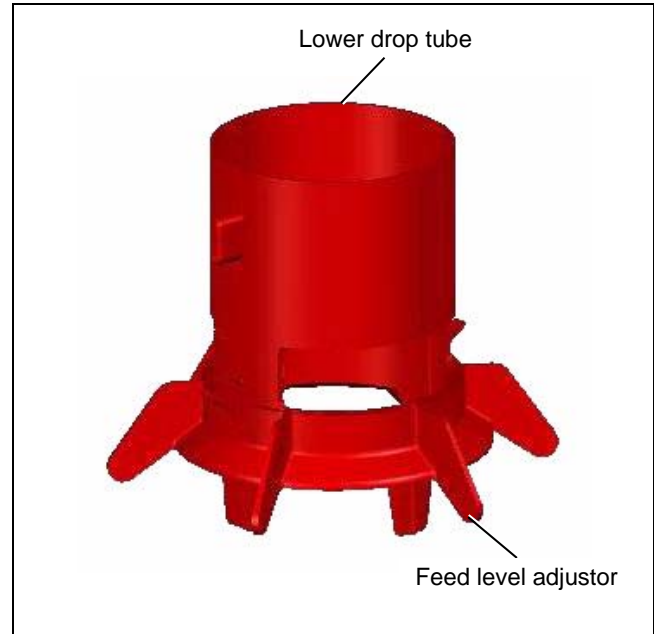

Figure 7N
2. Align adjustment slots on lower drop tube (C2000210) with notches on feed level adjustor (C2000211) and snap into position as shown in Figure 7N.